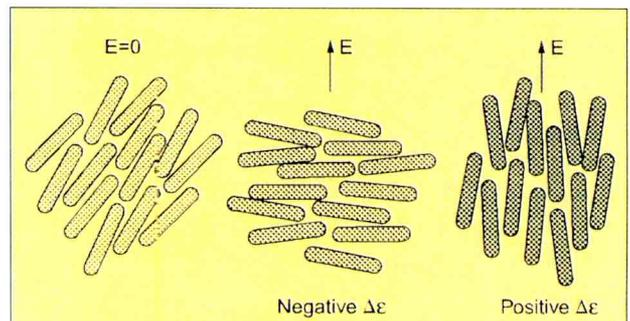

Figure 19. Effect of electric field on orientation of nematic liquid crystals.
useful for displays is their highly anisotropic dielectric constant. Because the molecules are in the liquid state and have dielectric anisotropy, they can be oriented by an externally applied electric field (E), much as metal filings can be oriented in a magnetic field. If the dielectric constant (ϵ) is larger along the long axis (or director) of the molecule compared to the short axis, the liquid crystal is said to have positive dielectric anisotropy. For this class of materials the long axis of the molecule tends to align parallel to an applied electric field as shown in Figure 19. For materials in which the dielectric constant is smaller along the long axis compared to the short axis, the dielectric anisotropy is negative and the molecule tends to align with its long axis orthogonal to the field.